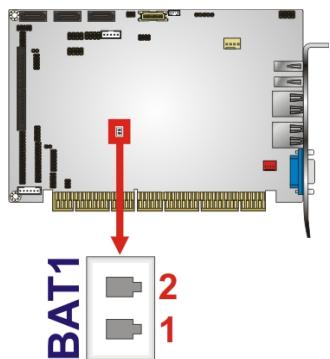

Figure 3-4: Battery Connector Location
3.2.3 Battery Connector**CN Label:** BAT1**CN Type:** 2-pin wafer (1x2)**CN Location:** See Figure 3-4**CN Pinouts:** See Table 3-6